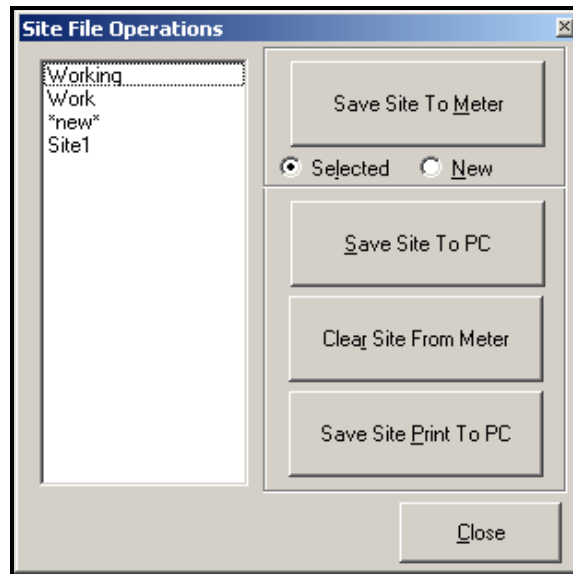

Figure C-14: *Site File Operations* Window
To access site files, click on the *Site Files* button in the *Properties* window. The *Site File Operations* window (shown in Figure C-14 below) opens.
1. Highlight the desired site in the left pane. (See Figure C-14 on page C-12.)
1. Highlight the site in the left pane. (See Figure C-14 on page C-12.)